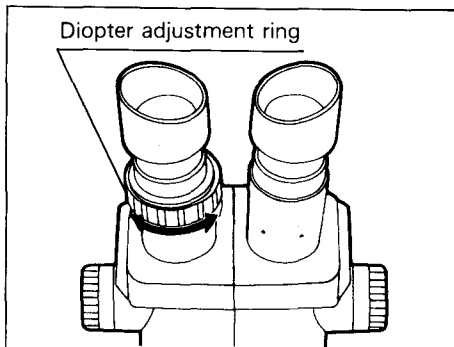

Fig. 3
- (1) Minimize the magnification power by turning the zoom control knobs.
- (2) Looking through the right eyepiece, bring the specimen into focus by turning the focusing knobs.
- (3) Looking through the left eyepiece, bring the specimen into focus by turning the diopter adjustment ring. (Fig. 3)
- (4) Maximize the magnification power by turning the zoom control knobs, and bring the specimen into focus by turning the focusing knobs.
- (1) Maximize the magnification power by turning the zoom control knobs.
- (3) Minimize the magnification power by turning the zoom control knobs. (Fig. 3)